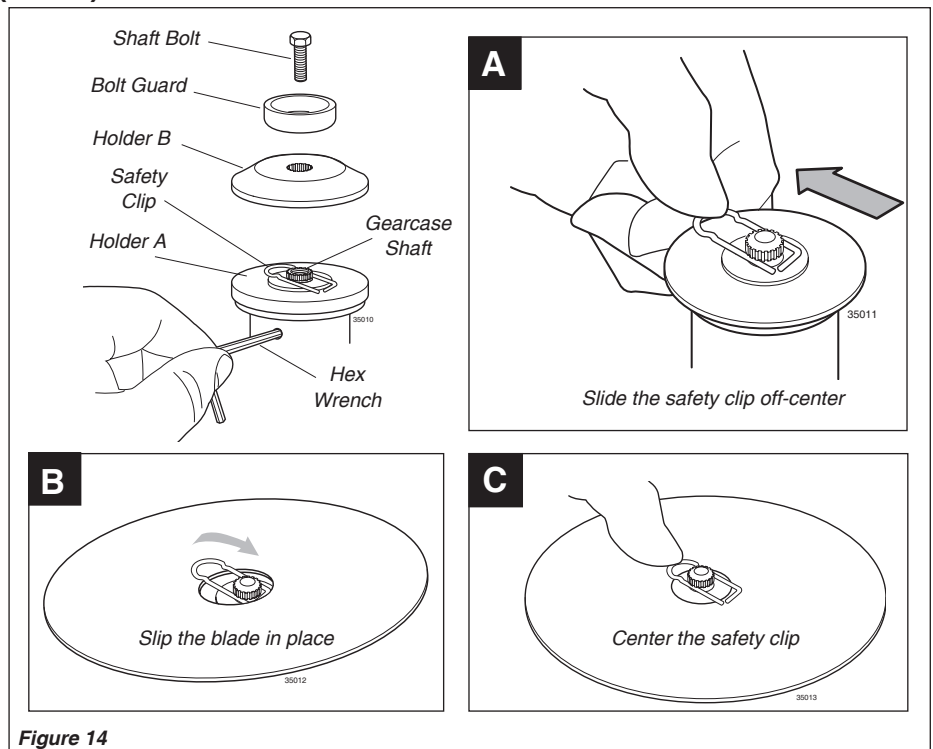

Figure 14
1. With the gearcase output shaft facing up, rotate the gearshaft and Holder A until the hole in Holder A aligns with the matching hole in the gearcase flange, and then lock the holder to the gearcase by inserting the long end of the hex wrench through both holes. See Figure 14.
2. Remove the shaft bolt, bolt guard and Holder B. See Figure 14.
3. Slide the safety clip off center on the gearcase shaft. See Figure 14-A.
4. Slide the blade over the safety clip and onto the flange on Holder A. See Figure 14-B.
5. Lock the blade on the shaft by centering the safety clip. See Figure 14-C.